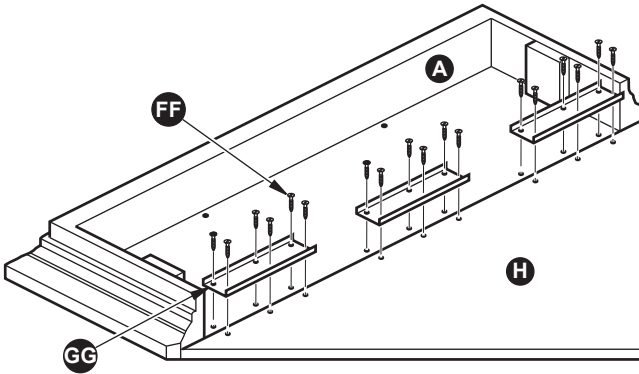

Figure 36
8. Turn the fireplace Top Panel (A) over. Using the 3 supplied Connector Brackets (GG), attach the Mantel Top (A) to the Top Triangle Panel (H) with 18) ST4 Screw 5/8" (FF) as shown in Figure 36.